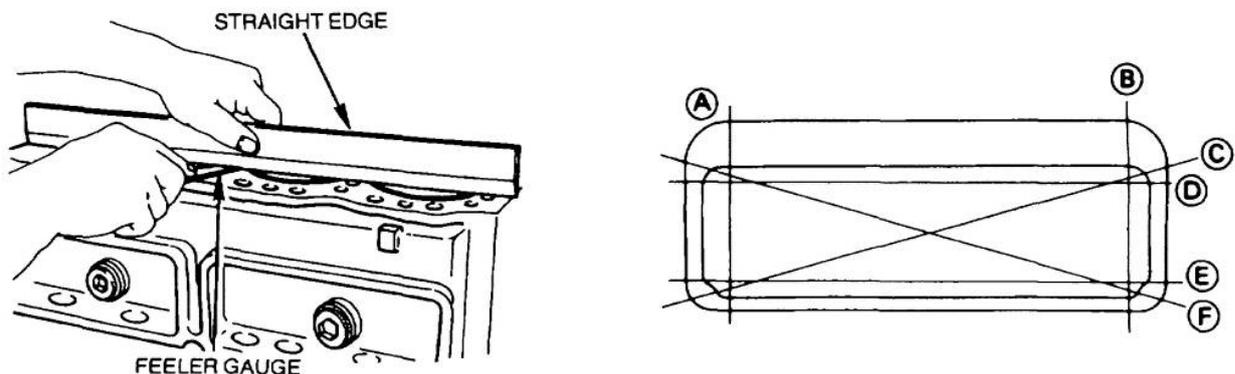

Figure 36 Checking the Engine Block Distortion
- b. After removing the cylinder liners, check the engine block deck for distortion using a straight edge and a feeler gauge (Figure 36). If the distortion exceeds 0.20 mm (0.008 in) the engine block deck will require machining. The maximum allowable amount of metal that can be removed is 0.3 mm (0.012 in). If distortion still exists after the maximum amount of metal has been removed, replace the engine block.